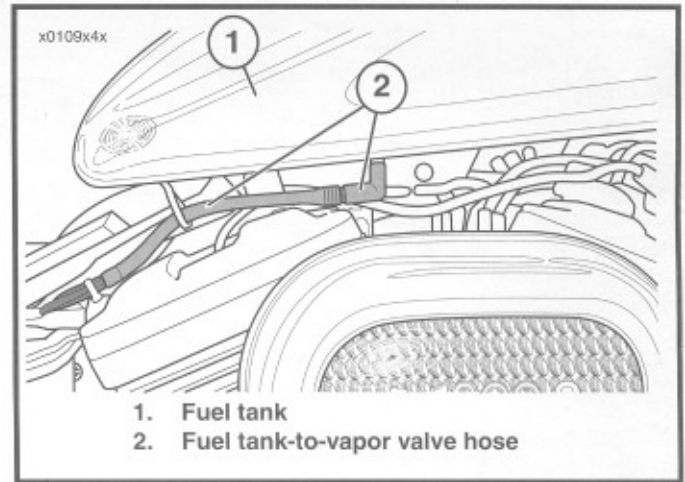

Figure 4-11. Fuel Tank Venting System (Right Side View with Seat Removed)
See Figure 4-11. The fuel tank (1) is vented through a standpipe (vent tube) within the tank. A hose (2) at the base of the fuel tank is connected to the standpipe.
4. See Figure 4-11. Disconnect fuel tank-to-vapor valve hose (2) from fitting at base of fuel tank. Lift fuel tank off motorcycle.
2. See Figure 4-11. Install fuel tank-to-vapor valve hose (2) onto fitting at base of fuel tank (1). Position fuel tank on motorcycle.